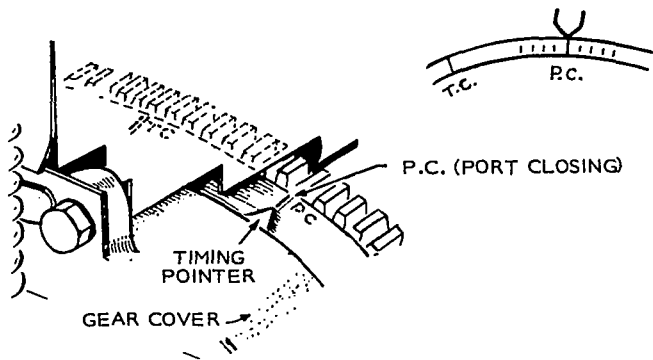

FIGURE 27. PORT CLOSING POSITION
3. See that PC mark on flywheel aligns with timing pointer on gear case cover, Figure 27.